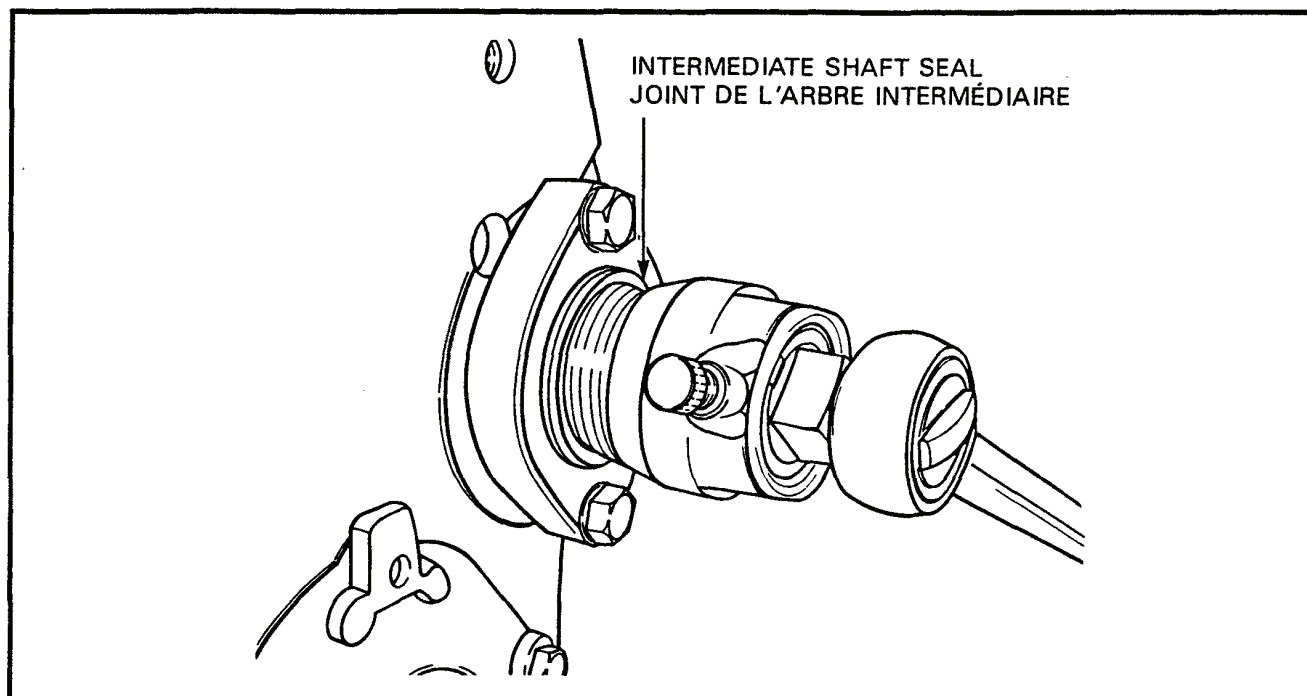

Figure 2-6-26 Removal of Intermediate Shaft Seal
- h. Using a suitable tool, remove the shaft seal from the flange, see Figure 2-6-26.
- h. Au moyen d'un outil approprié, enlever le joint d'arbre de la bride, voir figure 2-6-26.